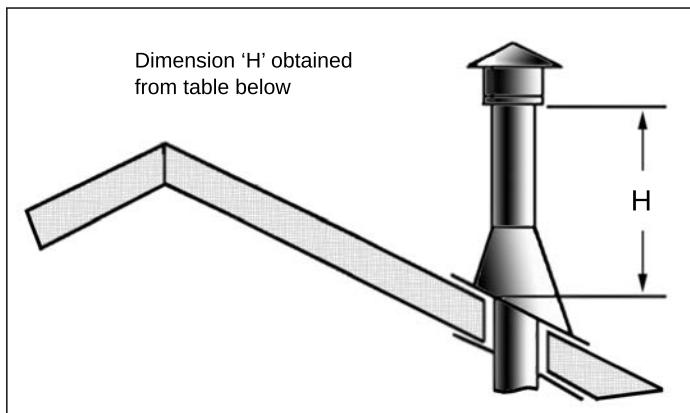

Figure 61: Height of Vertical Termination; Reference Table 8.
- STEP 8.** Continue to add pipe sections until the height of the vent cap meets the minimum code requirements. Refer to Figure 61 and Table 8. Note that for steep roof pitches, the vent height must be increased. In high wind conditions, nearby trees, adjoining roof lines, steep pitched roofs, and other similar factors can result in poor draft, or down drafting. In these cases, increasing the vent height may solve the problem.
Table 8: Minimum 'H' for Figure 61.